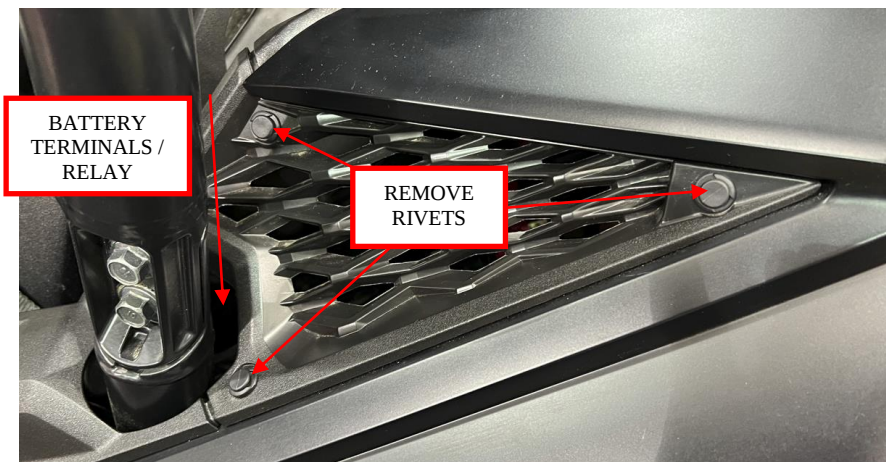

Figure 8: Remove the trim panel screen.
7. Remove the trim panel screen behind the driver's side door. The panel is removed by first prying the center of the plastic rivets up, then pulling the entire rivet out. See Figure 8.
8. Route the end of the chassis wiring harness with the battery terminals along the down tube on the driver's side center chassis tube ("B pillar"). The ends with the battery terminals and relay block extend through the trim panel screen removed above, into the rear wheel opening. See Figure 8 and Figure 9.